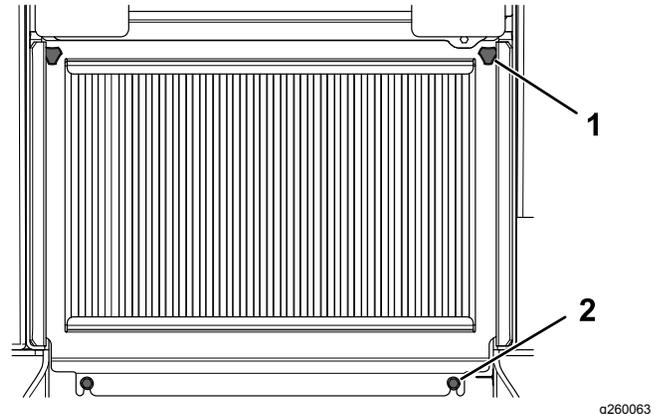

Figure 41
2. Loosen the 2 bolts securing the bottom of the screen (Figure 41).
3. Loosen the 2 knobs on the screen (Figure 41).
1. Knob (2)
2. Bolt (2)
4. Lift the screen and remove it (Figure 41).